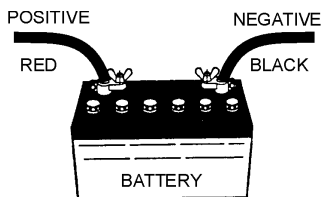

Figure 5. Battery Cable Connections
**ALWAYS** be sure the battery cables are properly connected to the battery terminals (Figure 5). The **RED** cable is connected to the positive terminal of the battery, and the **BLACK** cable is connected to the negative terminal.